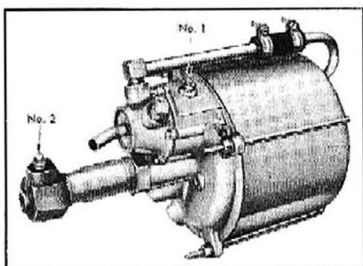

Fig. 59—Hydrovac
4. Connect bleeder tube to hydrovac bleeder valve No. 1, Figure 59, open bleeder valve and bleed until all air bubbles disappear (approximately  $\frac{1}{2}$  pint of fluid). Close bleeder valve.
5. Connect bleeder tube to hydrovac bleeder valve No. 2, Figure 59, open bleeder valve and bleed until all air bubbles disappear. Close bleeder valve.
3. On all models except  $1\frac{1}{2}$ , 2 and  $2\frac{1}{2}$  ton, remove bleeder valve screw and screw bleeder tube into bleeder valve. On  $1\frac{1}{2}$ , 2 and  $2\frac{1}{2}$  ton models, connect bleeder tube to hydrovac bleeder valve No. 1, Figure 59. Place end of tube in a container having sufficient fluid to cover end of tube.
The Hydrovac (fig. 59) consists of three operating units built into one assembly; namely, the control valve assembly, the vacuum power cylinder and the brake hydraulic cylinder.